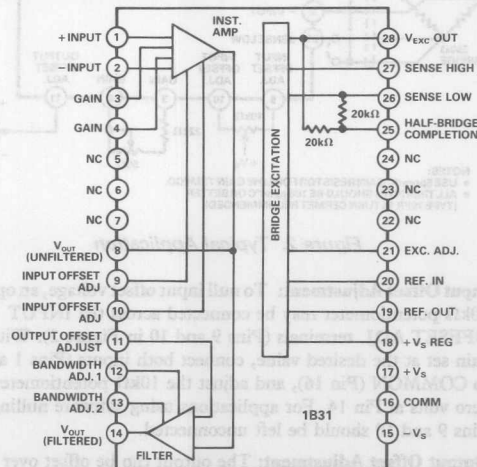

Figure 1. Block Diagram and Pinout
Model 1B31 is based on a two-stage amplifier design and an adjustable voltage regulator section, as shown in Figure 1. The front end is a low noise, low drift, instrumentation amplifier (IA) that is optimized to amplify low level transducer signals (from 2mV full scale) riding on high common-mode voltage ($\pm 9.5\text{V}$). The gain of the IA is programmed by a single resistor (1V/V to 2500V/V) and the input offset nulled out by an external potentiometer across the offset adjust Pins 9 and 10. The inverted signal ($V_{\text{IN}} - V_{\text{OUT}} - V_{\text{IN}} - V_{\text{OUT}}$) is brought out to Pin 8 for applications such as vibration and torque testing where the unfiltered output is required.